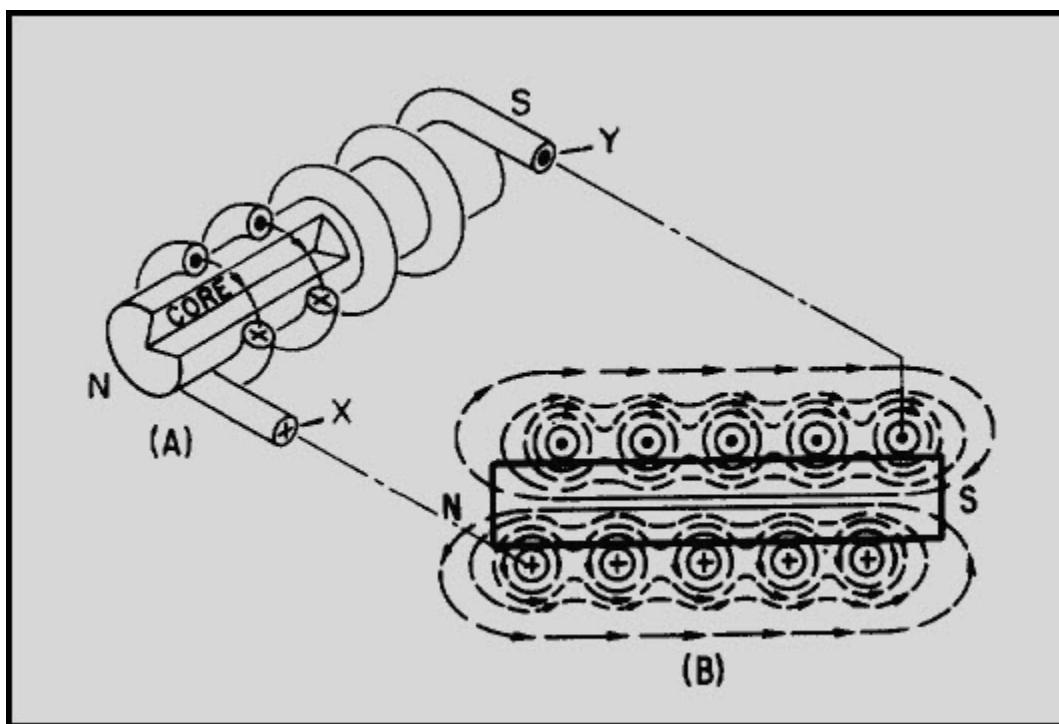

Figure 1-5 Magnetic field produced by a current-carrying coil
Figure 1-3(A) illustrates that the magnetic field around a current-carrying wire exists at all points along the wire. Figure 1-5 illustrates that when a straight wire is wound around a core, it forms a coil and that the magnetic field about the core assumes a different shape. Figure 1-5(A) is actually a partial cutaway view showing the construction of a simple coil. Figure 1-5(B) shows a cross-sectional view of the same coil. Notice that the two ends of the coil are identified as X and Y.